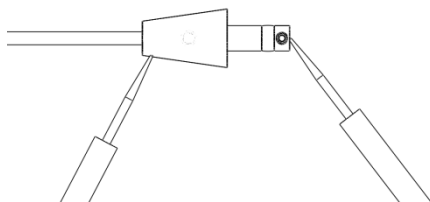

Figure 2 - Continuity Test #1
To Install Glass (Figures 2, 3, 4 & 5)
1. Small O-Ring (P) and brass ring (Q) are shipped installed on tube/socket assembly (M). Remove these two items and set aside for later use.
2. Locate Internal and External ridges of glass (L).
3. With the shelf side of the decorative glass (K) down, gently slide it over the glass (L) until it sits on the external ridge. (Figure 2)
(Figure 2)